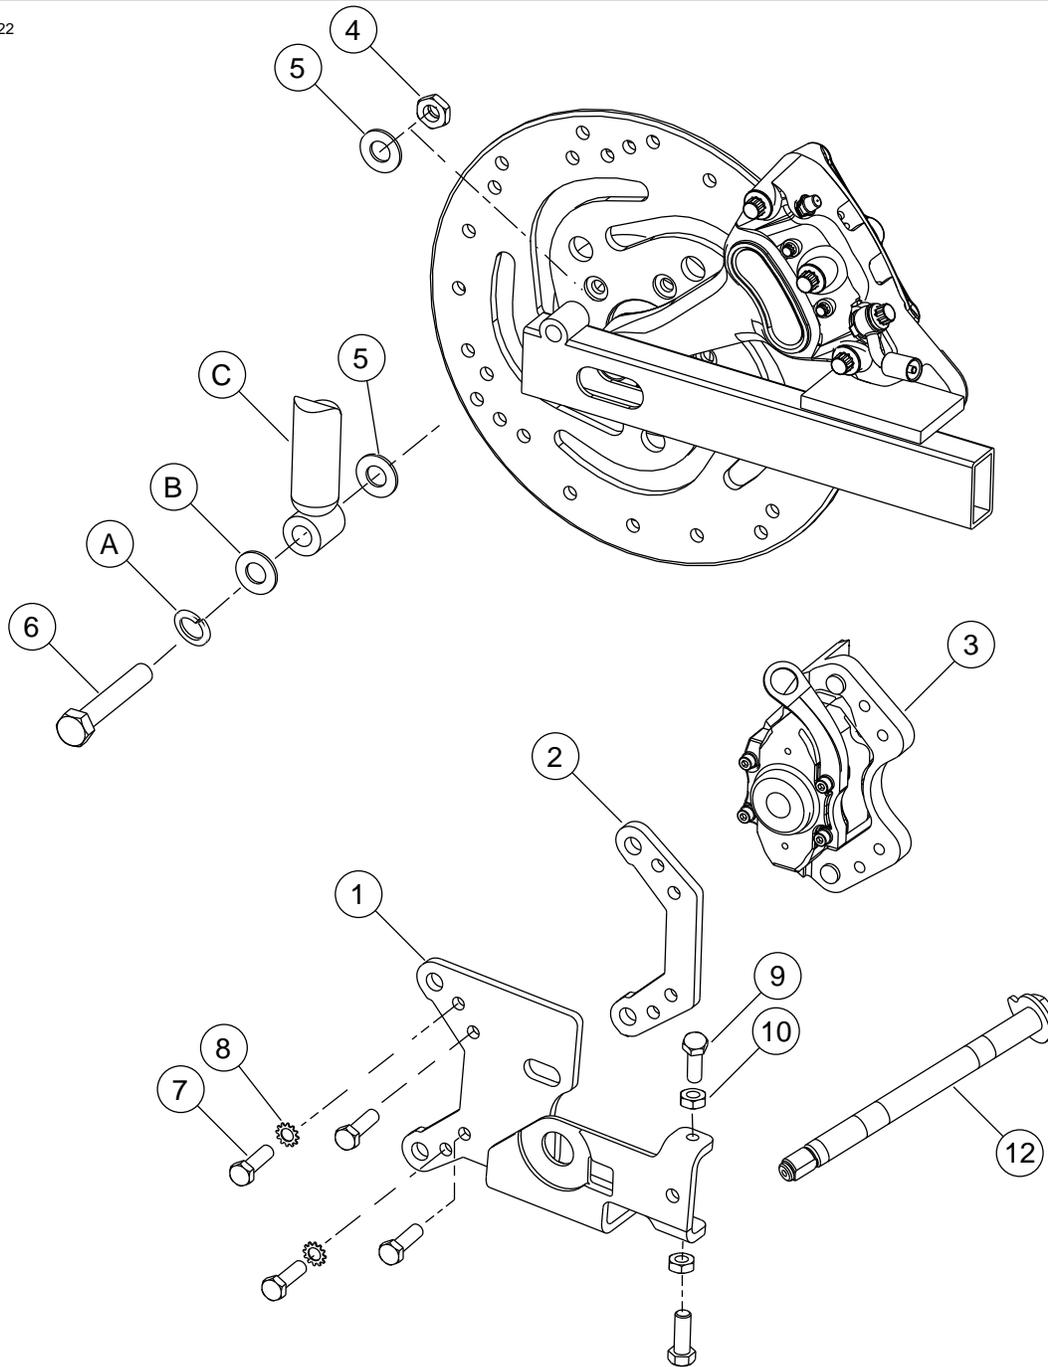

Figure 8. Service Parts: Caliper and Mounting Bracket (2007 and Earlier Shown)
7. See Figure 8. Obtain the new axle (12) from kit. Install axle from the left side and slide through swingarm, left spacer, wheel, right spacer and rear brake caliper mount but stop short of swing arm.
8. See Figure 8. Obtain the parking brake caliper (3), spacer (2), mounting bracket (1), four bolts (7) and two external tooth lockwashers (8) from kit.
16. See Figure 8. Obtain the upper and lower forward bracket alignment screws (9) and nuts (10) from kit.